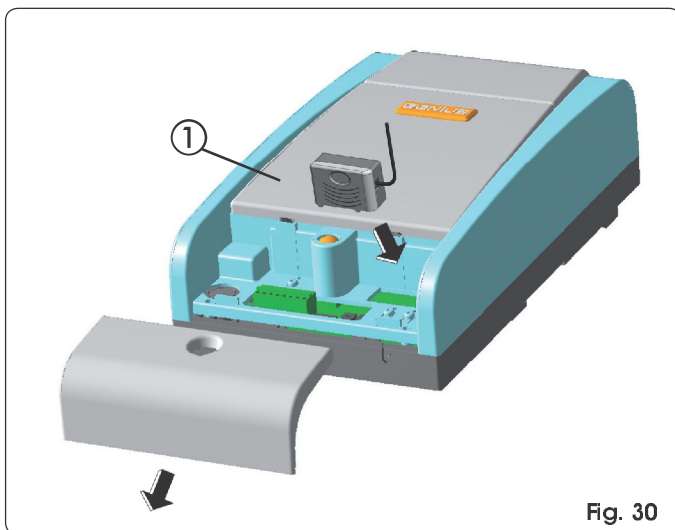

Fig. 30
The control unit has an integrated 2-channel decoding system named. This system makes it possible to memory-store both total opening (OPEN A) and partial opening (OPEN B) of the automated system - this is made possible by an additional receiver module (Fig. 30 ref. ①) and radio controls on the same frequency.